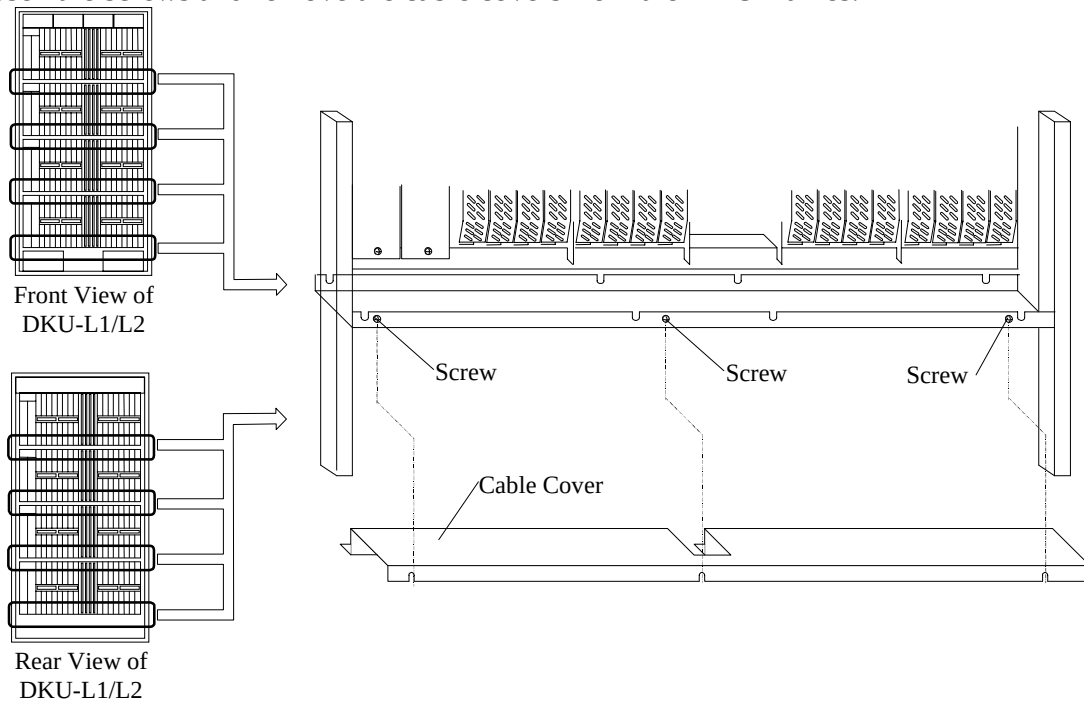

Fig. 3.11.9-8 Removal of Cable Covers
- c. Connect the DEV interface cables to the FSW PCBs in the DKU-L2 frame referring to Fig. 3.11.9-9 through Fig. 3.11.9-12.